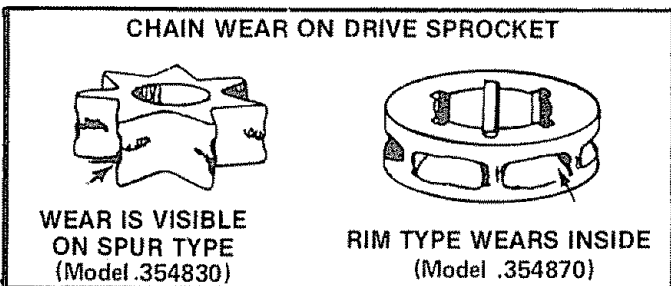

Figure 50
- Inspect the sprocket regularly for wear. A worn sprocket will make the chain run erratically and will shorten the life of the bar and chain. Figure 50.